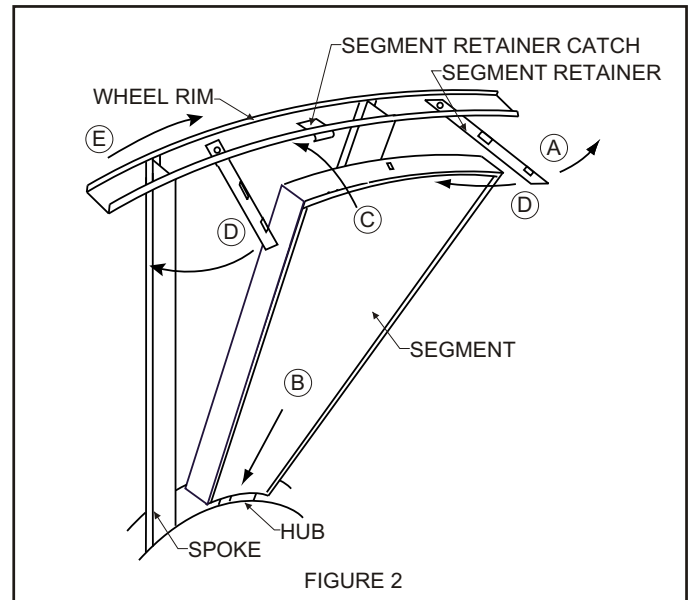

FIGURE 2
4. To install wheel segments follow steps A through E . **See Figure 2.** Reverse procedure for segment removal.